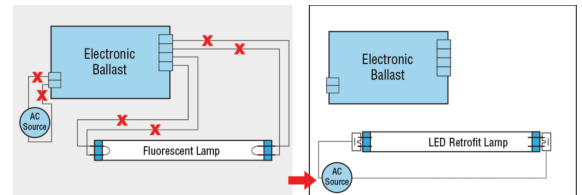

Figure 2. - Retrofit with One Lamp
7. Wire using appropriate wiring diagram. (**Figure 2, 3, 4**).